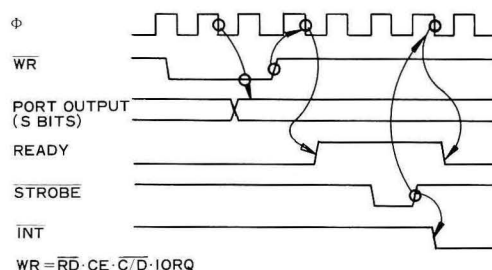

FIGURE 5.0-1
Figure 5.0-1 illustrates the timing associated with Mode 0 operation. An output cycle is always started by the execution of an output instruction by the CPU. A WR^* pulse is generated by the PIO during a CPU I/O write operation and is used to latch the data from the CPU data bus into the addressed port's (A or B) output register. The rising edge of the WR^* pulse then raises the Ready flag after the next falling edge of Φ to indicate that data is available for the peripheral device. In most systems the rising edge of the Ready signal can be used as a latching signal in the peripheral device if desired. The Ready signal will remain active until: (1) a positive edge is received from the strobe line indicating that the peripheral has taken the data, or (2) if already active, Ready will be forced low $1\frac{1}{2}$ Φ cycles after the leading edge of $IORQ$ if the port's output register is written into. Ready will return high on the first falling edge of Φ after the trailing edge of $IORQ$. This guarantees that Ready is low when port data is changing. The Ready signal will not go inactive until a falling edge occurs on the clock (Φ) line. The purpose of delaying the negative transition of the Ready signal until after a negative clock transition is that it allows for a very simple generation scheme for the strobe pulse. By merely connecting the Ready line to the Strobe line, a strobe with a duration of one clock period will be generated with no other logic required. The positive edge of the strobe pulse automatically generates an INT request if the interrupt enable flip flop has been set and this device is the highest priority device requesting an interrupt.